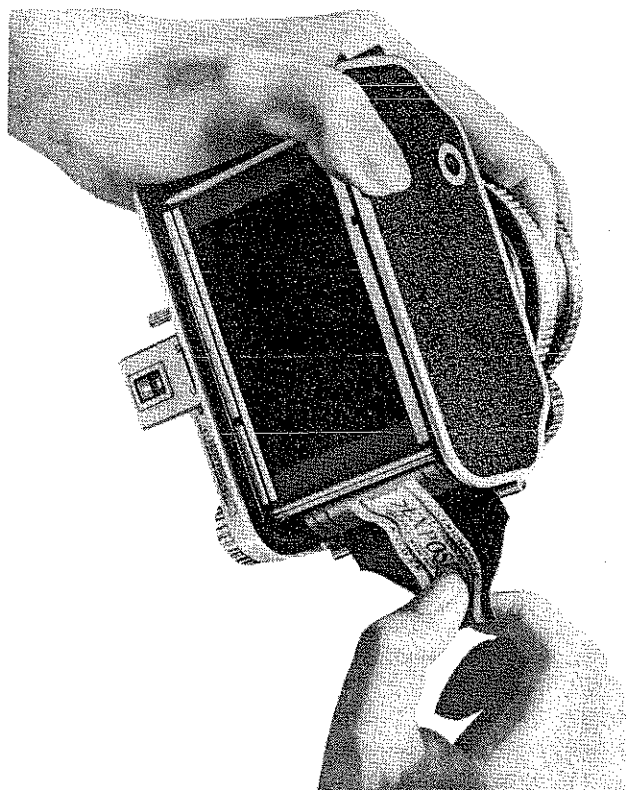

Figure 20—Removing Film
(1) After the last picture has been made, turn the winding key knob until the end of the paper on the roll passes the red window.
(2) In subdued light, open the back of the camera. Hold the end of the paper taut and turn the knob until all of the paper is on the roll.
(3) Take hold of the end of the paper and sticker as shown in figure 20, and remove the film. Fold the end of the paper under and fasten it with the sticker.